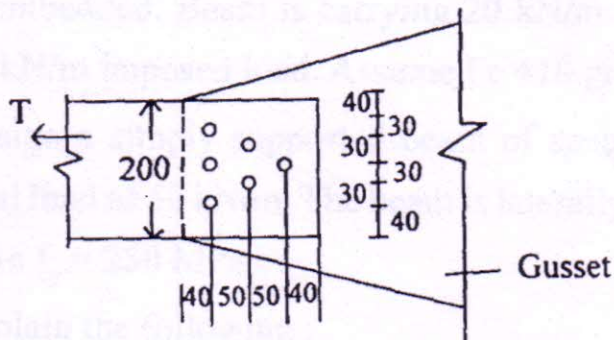

Fig. 3
- (b) Determine the design tensile strength of plate  $200 \text{ mm} \times 8 \text{ mm}$  connected to 10 mm thick gusset using 20 mm bolts as shown in Fig. 3. Take  $f_y = 250$  MPa and  $f_u = 410$  MPa.